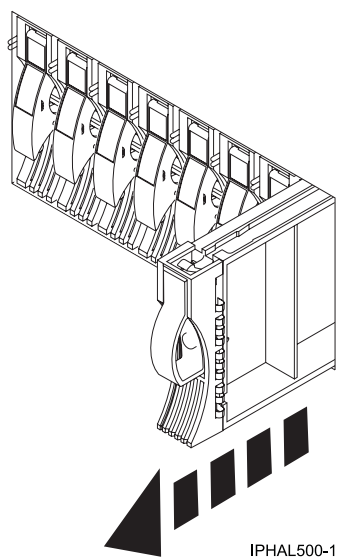

Figure 104. Removing a disk-drive filler from a model or 7311-D20
4. Pull the disk-drive filler from the slot. Pull the disk-drive filler from the slot that you want to use, as shown in Figure 104 on page 122.